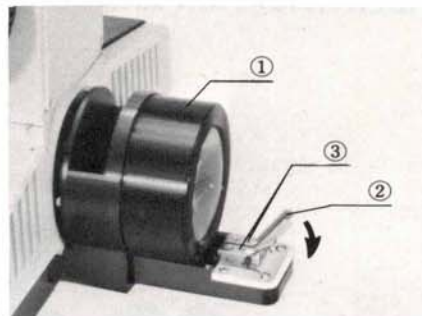

Fig. 1
- 1) Releasing the bulb clamping levers ② of the collector lens ① in the direction of the arrow, insert two contact pins of the halogen bulb into the socket ③. (Fig. 1) (Recommended to use a glove or gauze to handle the halogen bulb.)